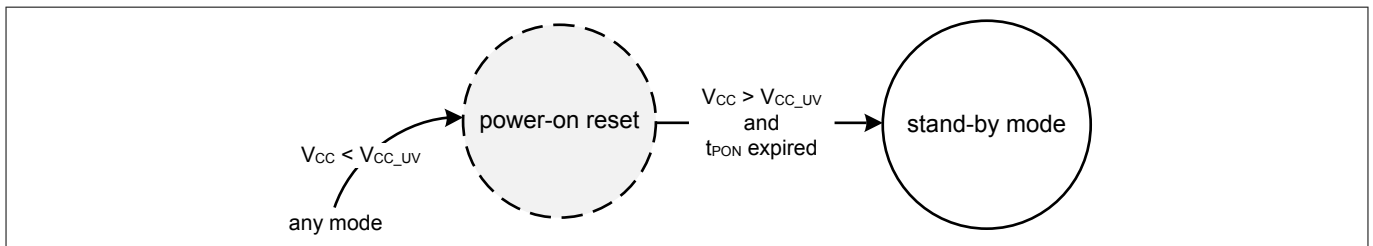

Figure 6 Power-up and power-down timings
- V_{CC} is below the V_{CC_UV} threshold (see Figure 6).